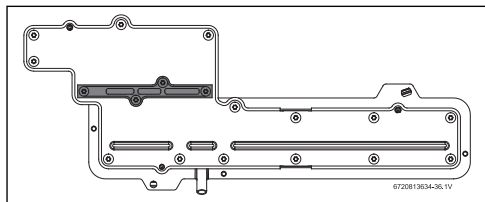

Fig. 50 Gas manifold
- ▶ Remove the four screws that retain the cover plate to the gas manifold, see fig. 50 (plate in grey color).